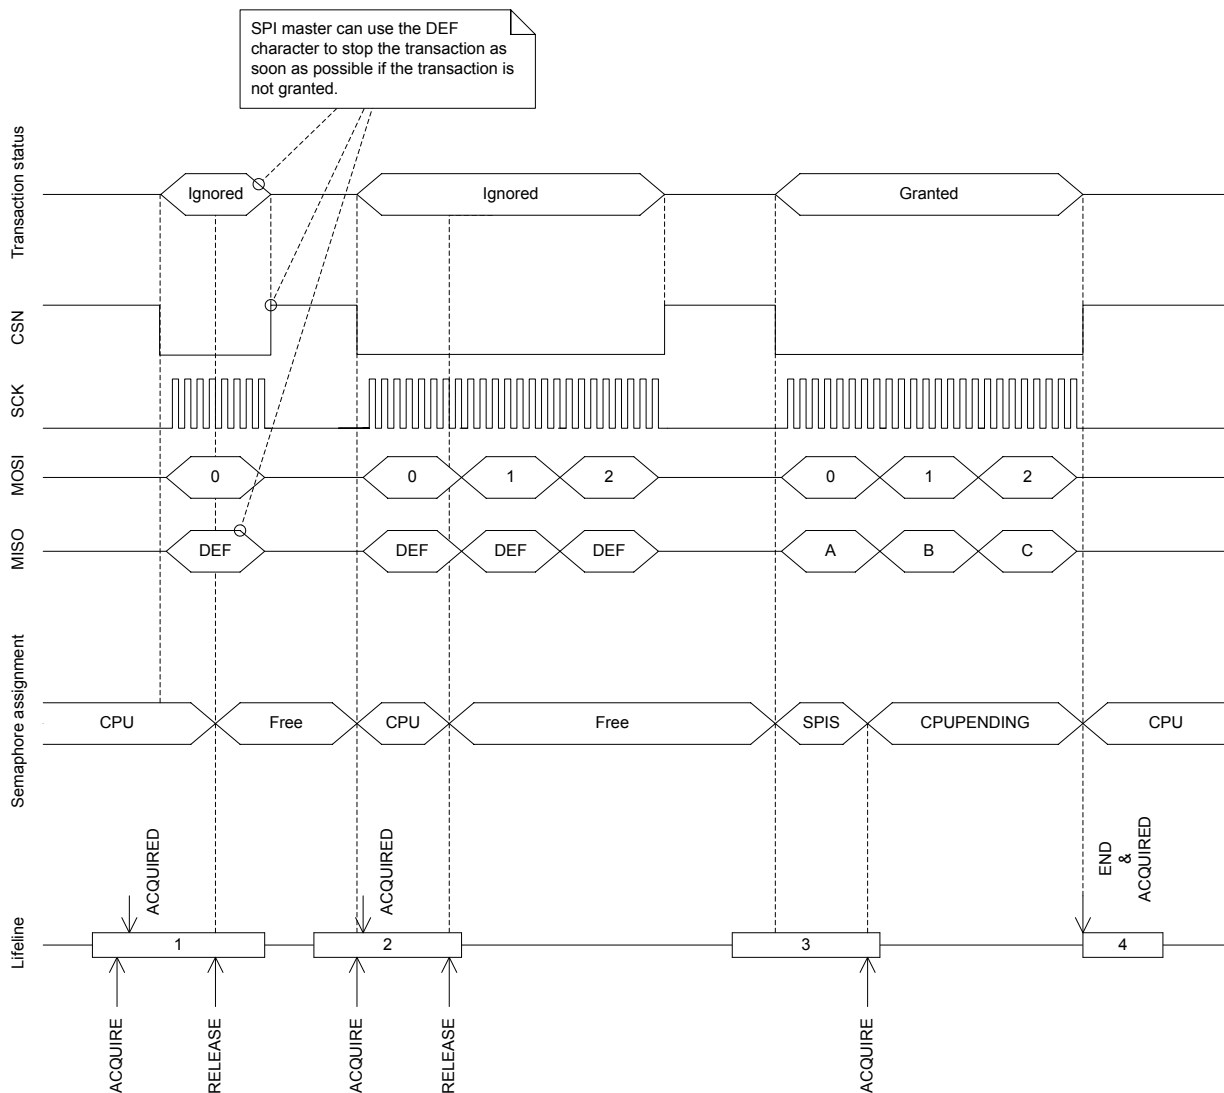

Figure 195: SPI transaction when shortcut between END and ACQUIRE is enabled
See Figure 195: SPI transaction when shortcut between END and ACQUIRE is enabled on page 553.
the RELEASE task. This is illustrated in Figure 195: SPI transaction when shortcut between END and ACQUIRE is enabled on page 553. Triggering the RELEASE task when the semaphore is not granted to the CPU will have no effect.
The SPI slave will try to acquire the semaphore when CSN goes low. If the SPI slave does not manage to acquire the semaphore at this point, the transaction will be ignored. This means that all incoming data on MOSI will be discarded, and the DEF (default) character will be clocked out on the MISO line throughout the whole transaction. This will also be the case even if the semaphore is released by the CPU during the transaction. In case of a race condition where the CPU and the SPI slave try to acquire the semaphore at the same time, as illustrated in lifeline item 2 in Figure 195: SPI transaction when shortcut between END and ACQUIRE is enabled on page 553, the semaphore will be granted to the CPU.